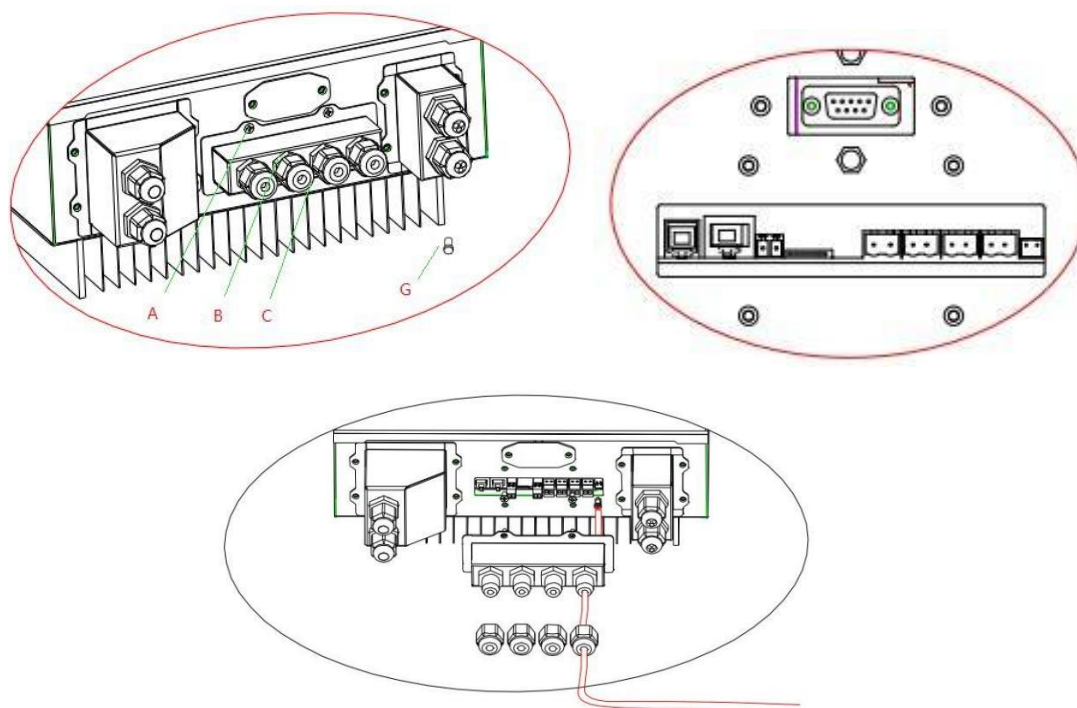

Fig. 12 CT / RS485 / NTC connection
6. AC contactor (if present) is correctly connected (fig. 12);